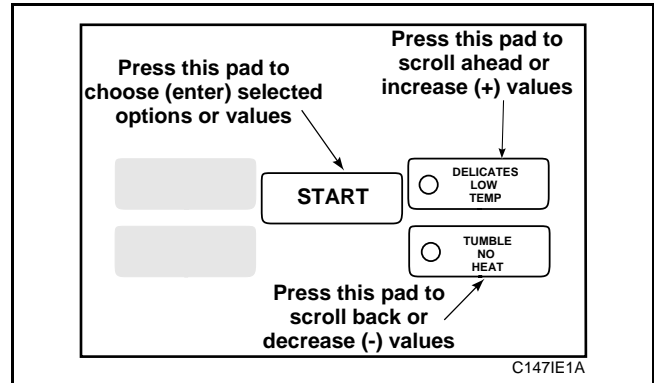

Figure 54
5. Press the LOW TEMP (+) pad or the NO HEAT (-) pad to increase or decrease the current number of minutes allowed in Cool Down, *Figure 54*.